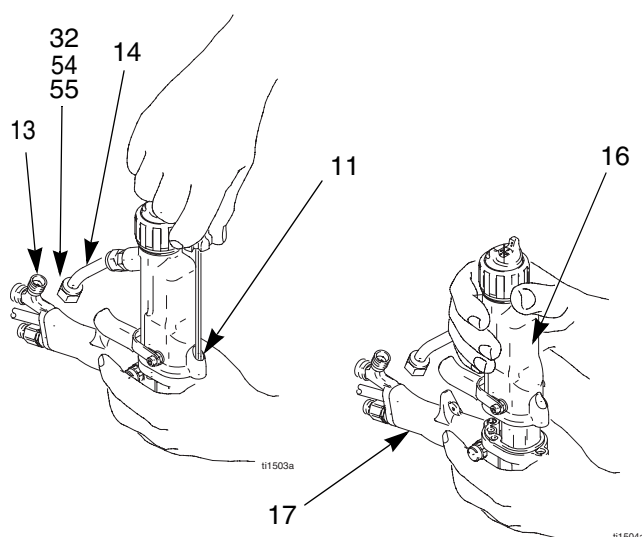

Fig. 16. Remove Barrel
4. Hold the gun handle (17) with one hand and pull the barrel (16) straight off the handle. See FIG. 16.